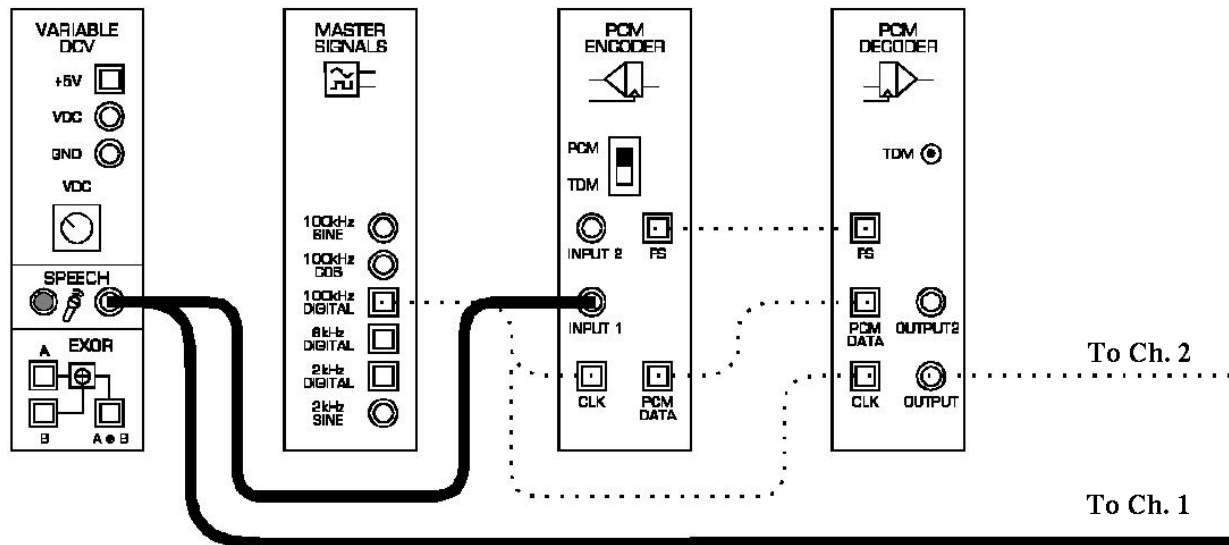

Figure 11:
3. Modify the set-up as shown in Figure 11.